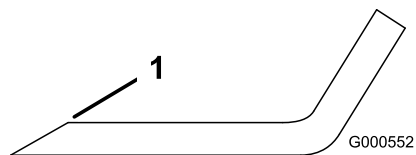

Figure 77
1. Use a file to sharpen the cutting edge at both ends of the blade (Figure 77).
**Note:** If the blade is not balanced, file some metal off the end of the sail area only (Figure 77).